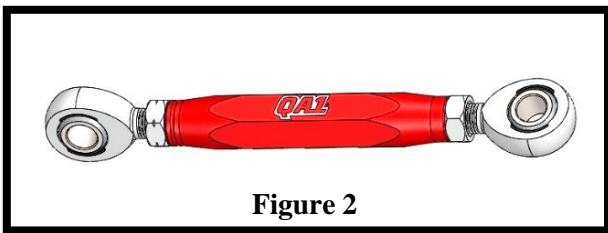

Figure 2
2. Install the 1/2" right hand thread jam nuts onto right hand thread rod ends (#10) and thread into the anodized red adjustment sleeve (#8). Do the same on the left hand thread side of the adjuster sleeve with left hand thread jam nut on left hand thread rod end. Thread rod ends all the way into the adjustment sleeve. **(Figure 2)**